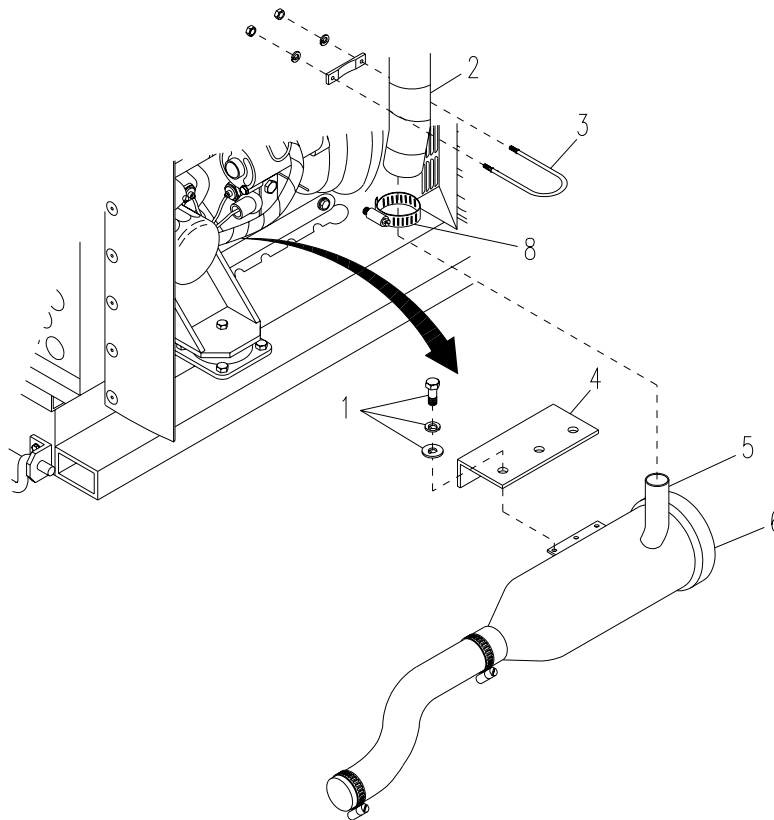

Figure 4-29. Muffler (SICPS)
- a. Remove three bolts, lock washers and flat washers (1, Figure 4-29) securing muffler (6) to muffler bracket (4), remove exhaust loop pipe clamp (3) securing muffler to exhaust pipe (2) and remove exhaust pipe insulating wrap around exhaust pipe (2). Remove muffler (6).
- b. Remove hose clamp loops (8) and exhaust pipe insulating wrap from muffler exhaust pipe.
- a. Remove three bolts, lock washers and flat washers (1, Figure 4-29) securing muffler (6) to muffler bracket (4), remove exhaust pipe clamps (3) securing muffler to exhaust pipe (2) and remove exhaust pipe insulating wrap around exhaust pipe (2). Remove muffler (6).
- c. Ensuring exhaust pipe (2) is inserted in muffler pipe (5), install new muffler (6) to muffler bracket (4) and secure with three bolts, lock washers, and flat washers (1).
- d. Install exhaust pipe insulating wrap around new exhaust pipe (2) and install hose clamp loops (8).
- e. Secure exhaust pipe (2) to muffler pipe (5) with muffler clamp loop (3).